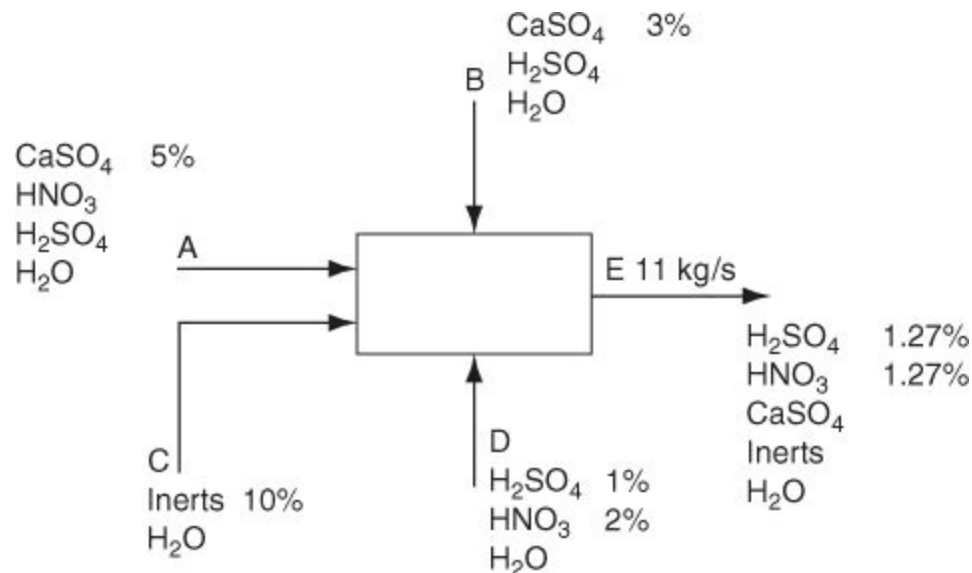

Figure P3.2.13
*****3.2.13.** Effluent from a fertilizer plant is processed by the system shown in Figure P3.2.13. How many additional concentration and stream flow measurements must be made to completely specify the problem (so that a unique solution exists)? Does only one unique set of specifications exist?